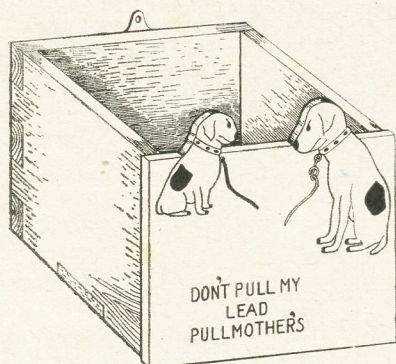

Fig. 1—Box ready to hang
**T**HE novel string box indicated in Fig. 1, of the accompanying illustrations is well worth making, and is bound to be popular in the home. The layout for the box front is indicated in Fig. 2, which is made in wood  $\frac{1}{4}$  in. thick. First cut the wood 6 ins. square, and divide the surface into  $\frac{1}{2}$  in. squares. Draw the dog and puppy as indicated, which is quite easily done by following through the squares.